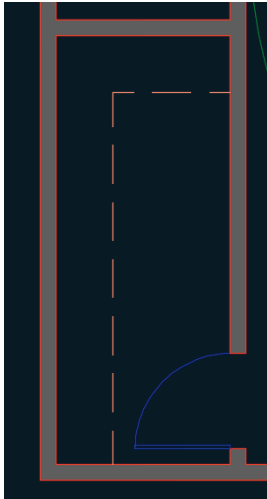

FIGURE 6.21 Hidden lines representing a high shelf in the closet
6. Type **48** (or **50** for metric), and press Enter. The lines appear with breaks indicating that the shelf is above the section plane (see Figure 6.21).